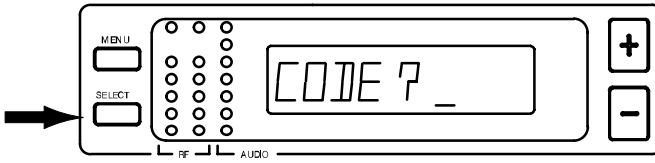

FIGURE 31
- Press the SELECT button. The “CODE?” display appears, as shown in Figure 31.